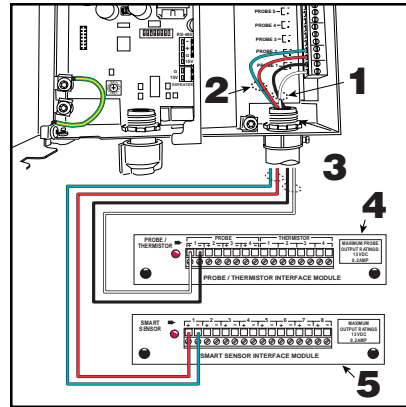

Fig. 13
1. In this example, device output 1 (Item 1 Fig. 13) is a Mag probe - Observe polarity.